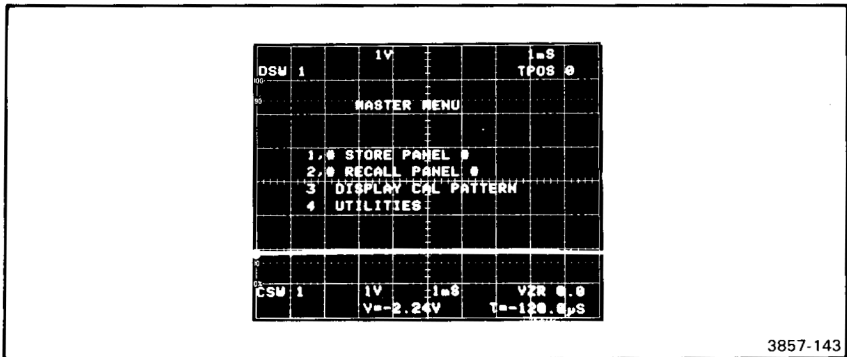

Figure 2-38. 7D20 MASTER MENU.
The 7D20 MENU allows you to select a number of functions using the numbered (1-6) MEMORY DISPLAY keys. When pressed, the MENU key will illuminate and cause the last selected MASTER MENU (see Fig. 2-38) or submenu to be displayed. When initially selected after power-up it displays the MASTER MENU. Selecting MENU terminates TEST menus, ID, and clears any displayed text. The MENU is terminated by pressing the illuminated MENU key or by TEST, ID, or TEXT from GPIB. The illuminated MENU key will extinguish upon termination and the displayed menu will disappear. The following shows the 7D20 menus and explains their associated function selections.
This Menu function (see Fig. 2-38) permits you to store up to six sets of front panel settings. These settings are retained in memory at power down and can be recalled using menu item 2, which is described next. Table 2-2 gives the items that are stored, other items retain their current or most recent status before a recall command.